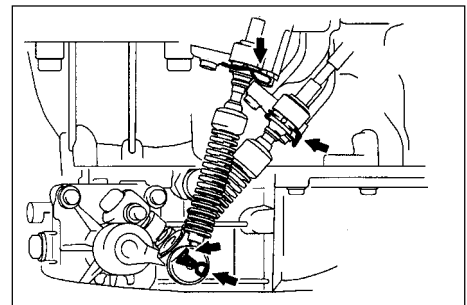

Figure 6-5
4. Separate the transmission shift cable assembly (see Figure 6-5).
33. Connect the transmission shift cable assembly (see Figure 6-5).